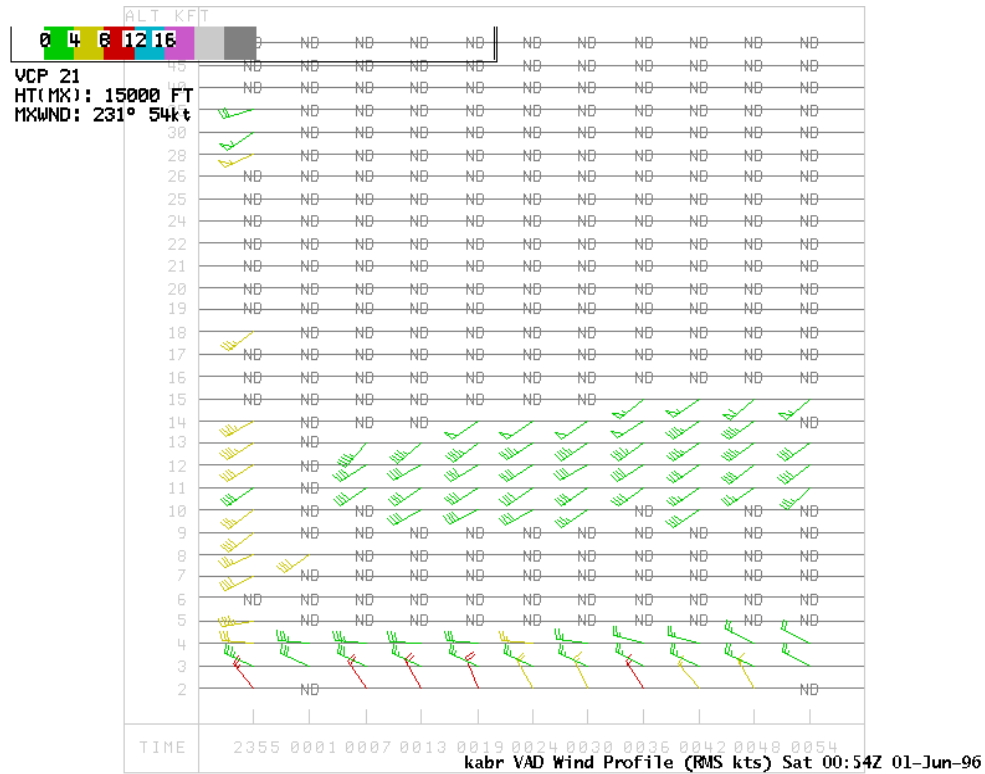

Figure 1. VAD Wind Profile.
12 Using figure 1, the winds appear reasonably accurate in the 10,000 - 15,000 ft range since ____.
12. Using figure 1, the winds appear reasonably accurate in the 10,000 - 15,000 ft range since ____